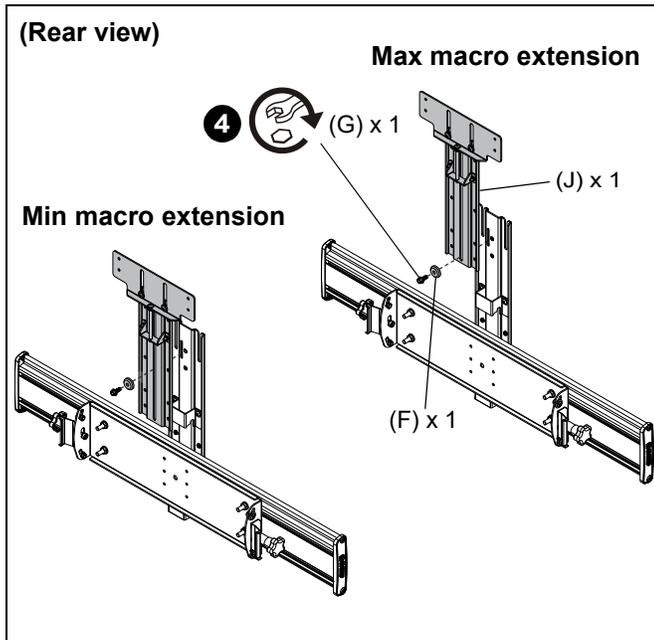

Figure 17
4. Use 1/4-20 x 5/8" hex head flange screw (G) and center washer (F) to secure lower adjustment assembly (J) to upright assembly (A).
- **(Maximum macro extension)** Slide lower adjustment assembly (J) until bottom of channel rests against 1/4-20 x 5/8" screw. (See Figure 17)
- **(Minimum macro extension)** Slide lower adjustment assembly (J) until bottom of bracket rests against top of rail bracket. (See Figure 17)